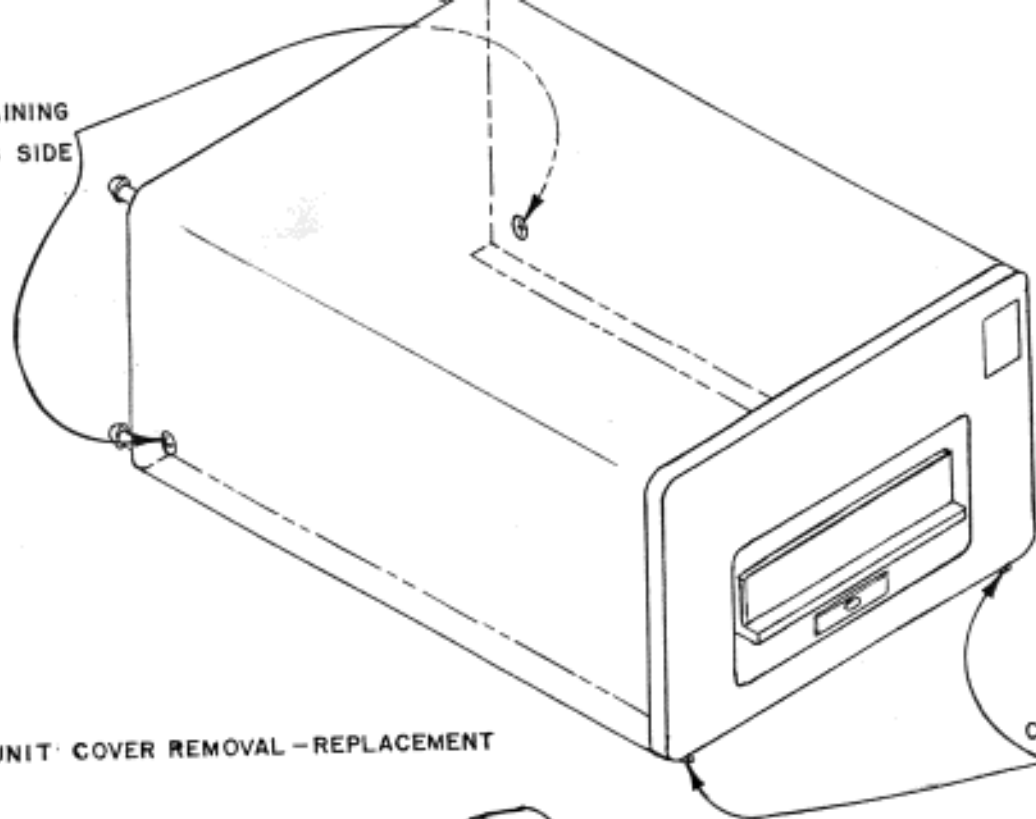

FIGURE 1. UNIT COVER REMOVAL-REPLACEMENT
3. UNSTACK THE UNITS SO THAT THE 8510 AND 8515 COVERS CAN BE REMOVED. SLIDE THE UNITS PAST THE EDGE OF THE TABLE OR DESK TOP UNTIL THE BOTTOM-FRONT RETAINING SCREWS ARE ACCESSIBLE. SEE FIGURE 1 FOR RETAINING SCREW LOCATIONS. (A PHILLIPS HEAD SCREWDRIVER IS REQUIRED.)